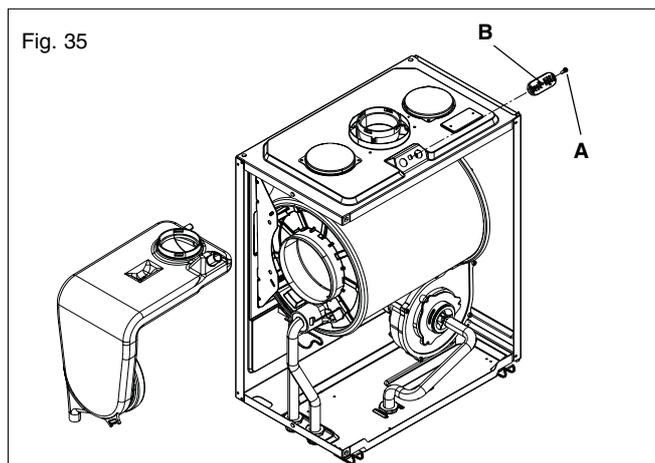

Fig. 35
6.21 FLUE COLLECTOR REMOVAL (fig. 35)
Isolate the appliance from the electrical supply and remove the appliance casing as described in 4.7.1. Set the flue gas analyser to read CO₂ and insert the probe into the flue analysis test point (A, B fig. 35). Restore the electrical supply to the boiler and switch on the boiler. To adjust the gas valve you must first access the adjusting mode. This mode is only accessible in STANDBY mode. To access the adjusting mode: push INFO and MODE buttons at the same time for 10 seconds to enter the adjusting menu. The display shows "CodE" (see fig. 36). Push MODE button and select the adjust parameters password by turning the RH (right-hand) encoder and confirm it by pushing MODE button. The following functions are available in this mode.
- Insert the flue gas analyser probe into the flue gas test point (see fig. 35).